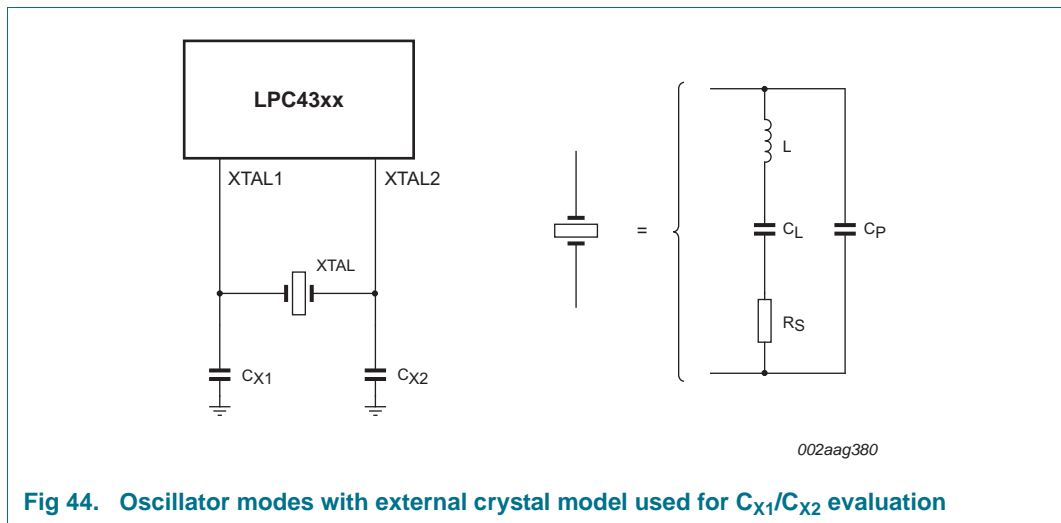

Fig 44. Oscillator modes with external crystal model used for C_{X1}/C_{X2} evaluation
- External components and models used in oscillation mode are shown in Figure 44, and in Table 43 and Table 44. Since the feedback resistance is integrated on chip, only a crystal and the capacitances C_{X1} and C_{X2} need to be connected externally in case of fundamental mode oscillation (L, CL and RS represent the fundamental frequency). Capacitance C_P in Figure 44 represents the parallel package capacitance and must not be larger than 7 pF. Parameters FC, CL, RS and C_P are supplied by the crystal manufacturer.